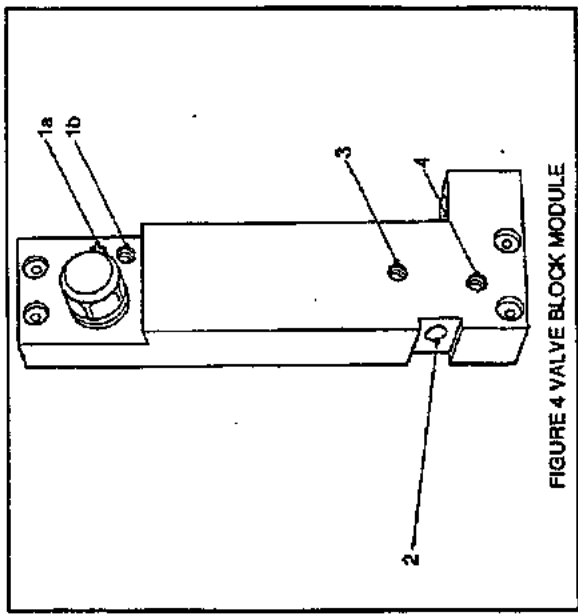

FIGURE 4 VALVE BLOCK MODULE
**Simple Control Block (103862) (Figure 4)**
This control valve block module is used when the tool is to be controlled remotely. Figure 4 details the signal originations.